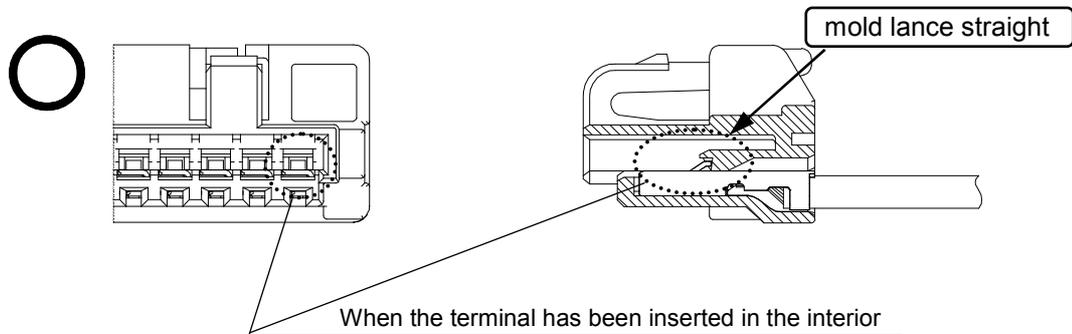

Fig.3 Correct mated
- ④ Confirm if the terminal is inserted correctly by pulling the terminals with little force (100g). Do not pull hard.
- ⑤ After inserting all terminals, confirm from the mold lance windows to see if all the lances are in the correct position. If they are inserted correctly, you would be able to see the lances clearly. (See Figure 3, 4)